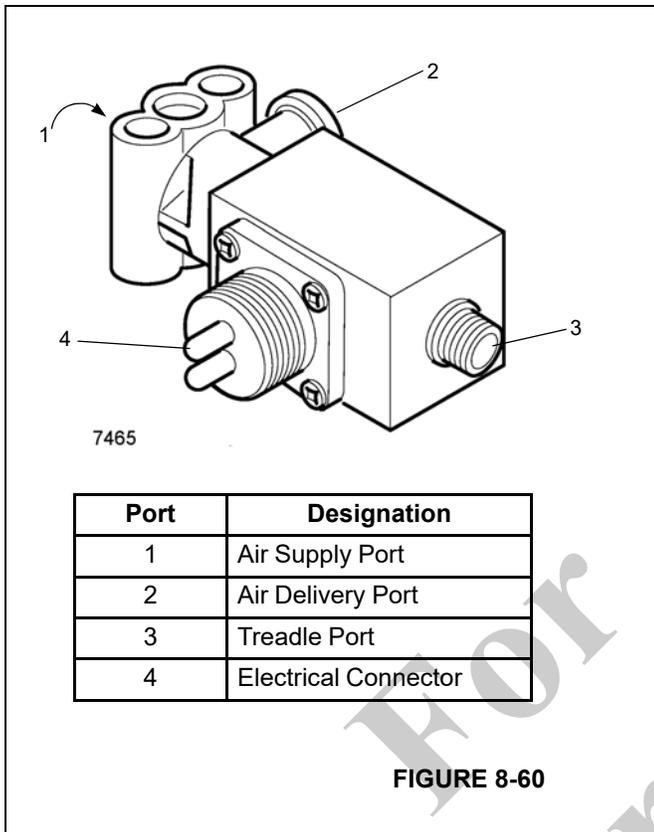

FIGURE 8-60
During normal operation, air is delivered to the ATC valve treadle port (3), (Figure 8-60) from the Brake Pedal Control Valve, which in turn supplies the air from the air delivery port (2), (Figure 8-60) to the Rear Service Brake Relay Valve.
When traction control is utilized, the ATC valve is activated, diverting supply tank air from the air supply port (1), (Figure 8-60) to the Modulator Valves on the drive axle(s) by way of the air delivery port (2), (Figure 8-60). The Electronic Control Unit then activates the appropriate solenoids in order to apply a brake force to the spinning wheel. The Automatic Traction Control System cannot increase traction to a particular wheel; it can only utilize the available traction.